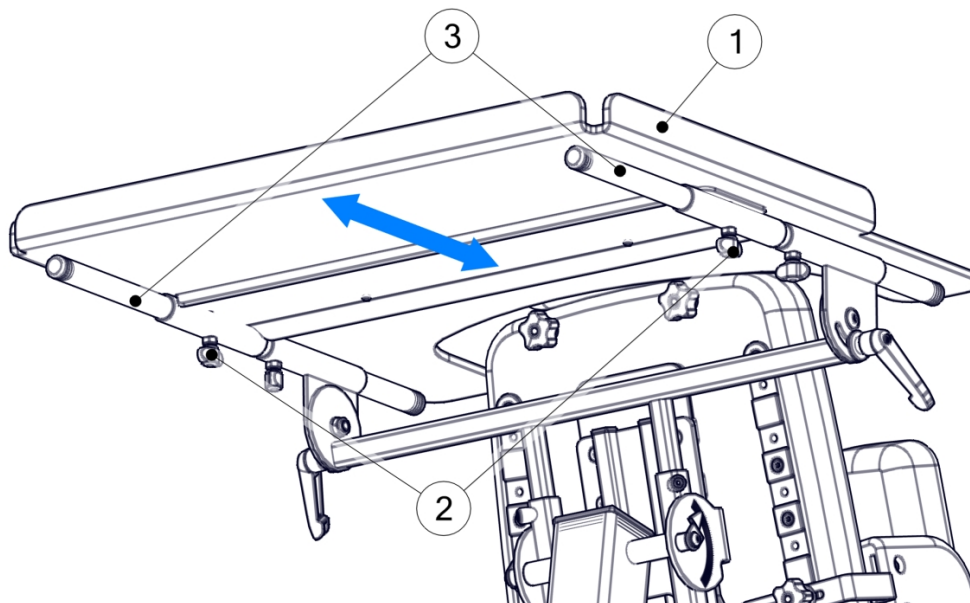

Fig. 20
The depth of the tray (1) (Fig. 20) can be adjusted by loosening screws (2) and shifting the tray along rails (3). The position of the tray can be blocked by retightening the screws (2).